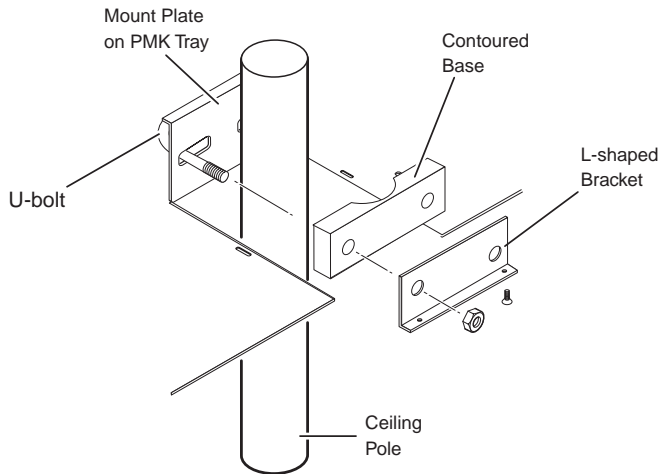

Figure 2-5 — U-bolt attachment
- Pass the two legs of the U-bolt through the slotted holes in the back of the mounting plate, around the mounting pole, through the holes in the rubber contoured base, and through the holes in the L bracket (see figure 2-5 below).